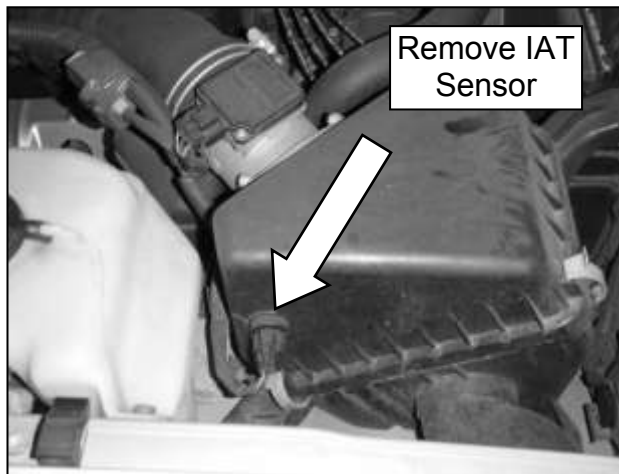

Fig. 2
- c. On vehicles that are equipped with an IAT, remove it as shown. (Fig. 2)